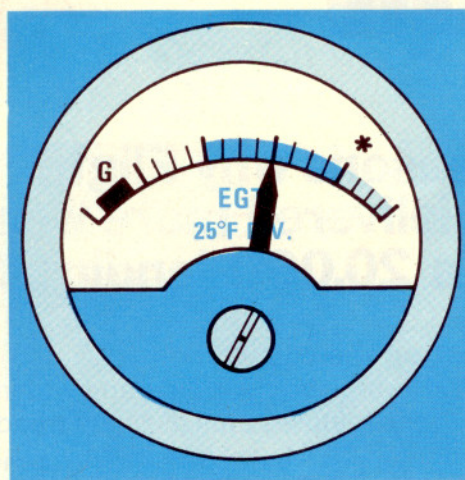

Figure 1—Author's proposed dial and range markings for EGT systems. Solid color area would be green; lighter area, yellow.
One of the most important steps that could be taken in this area would be to standardize the dial presentations on EGTs, so they would be more descriptive and easier to understand. A recommended dial presentation is shown in Figure 1. Using this type of presentation, all the pilot would really have to remember is *keep the EGT in the green [solid color] at all times*—takeoff, climb, cruise, and descent.
The "G" marked on the dial in Figure 1 is to indicate the normal EGT during ground runup, say 1,700 rpm. The reference mark (*) is peak EGT at fixed cruise condition, such as 75% power, 2,300 rpm, and 7,500 feet for the Phantom IO-567 engine. The engine manufacturer should also give actual temperature values with limits for the ref-
If you like the Figure 1 dial presentation, then the primary question probably is "Fine, but how does one utilize the above information for a Continental IO-470 engine, a Lycoming O-360, or some other engine with the existing EGT dial?" The following is proposed:
1. Keep a mental picture of the green arc [solid color] and yellow arc [lighter color] of Figure 1, i.e., green arc extends 200°F below the reference point and the yellow arc above.
3. Establish where Point "G" is on the dial (important for operating from high altitude airports with engines having uncompensated fuel metering systems). Establishing Point G can be done by observing the EGT at full-rich during ground runup when at sea level or near sea level, assuming, of course, that the fuel flow at full-rich at sea level is correct. Also "G" can be established by: (1) setting off full-power in flight at minimum altitude; (2) leaning the mixture so the EGT is at the center of the green arc; then, (3) after landing and before moving the mixture control, go to ground runup conditions; and (4) observe the EGT reading and use this "G" value. Based on my flying experience,
"G" for the Continental fuel-injection engines is as shown in Figure 1.